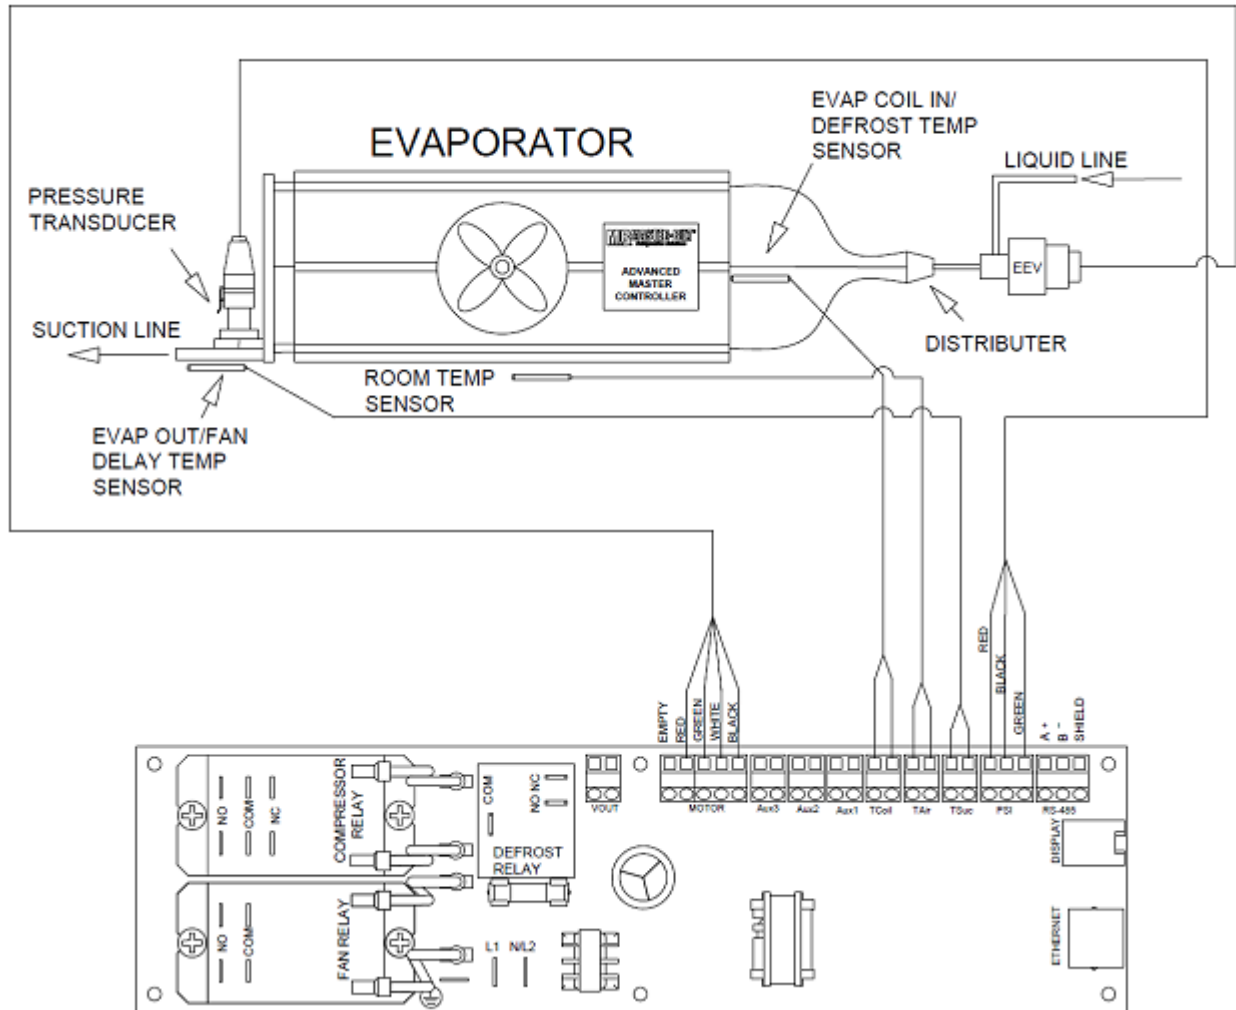

Figure 2: Hardware and input/output descriptions and connections
LogiTemp Plus is an OEM version of the custom-designed microprocessor-based electronic controller for RSG to control an electric expansion valve in response to evaporator superheat and return air temperature. The hardware and input/output descriptions and connections of a LogiTemp Plus are shown in figure 2 on page 8.
- **Defrost Termination Temperature Sensor TCoil** is mounted downstream of the distributor tube after the valve and close enough to the evaporator coil to measure defrost termination temperature during defrost cycle. **Figure 2** on the next page shows the sensor locations of the evaporator and the controller. It is displayed as “tCL”.